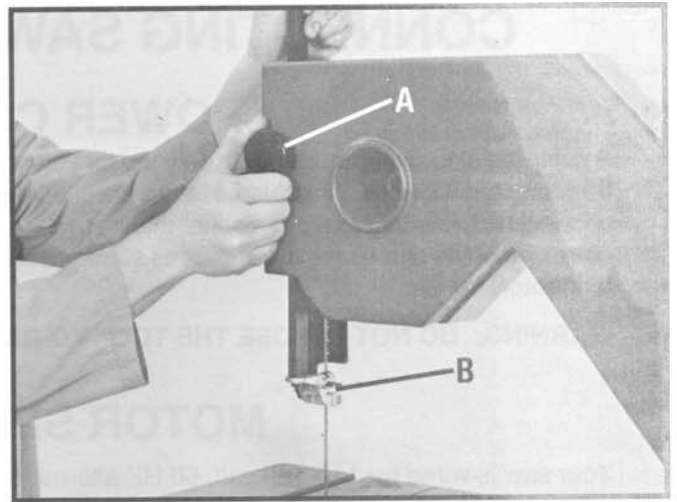

Fig. 5
1. Loosen knob (A) Fig. 5, and raise upper blade guide (B).